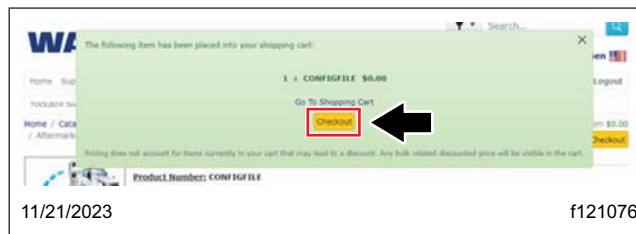

Fig. 6, Selecting Checkout
- Once the configuration file has been added to the shopping cart, select 'Go To Shopping Cart' or 'Checkout' in the window that appears. See Fig. 6.